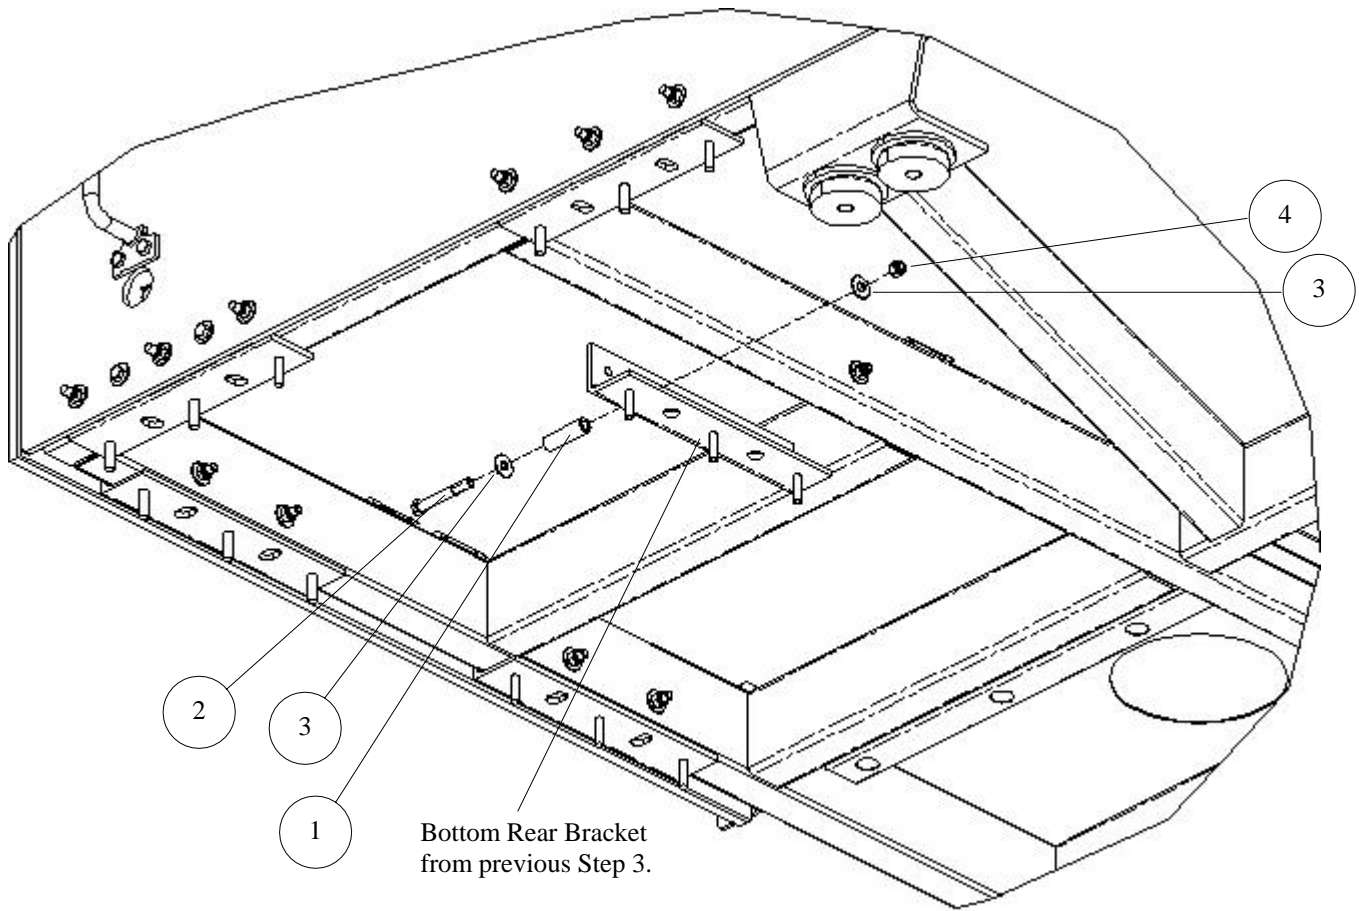

Figure 3-35. Bottom Rear Bracket Installation.
4. Install bottom rear bracket as follows (see Figure 3-35):
- a. Install bottom rear bracket and two sleeve bushings (1) and secure with two bolts (2), four flat washers (3), and two locknuts (4). Torque lock nuts to 35 lb-ft.